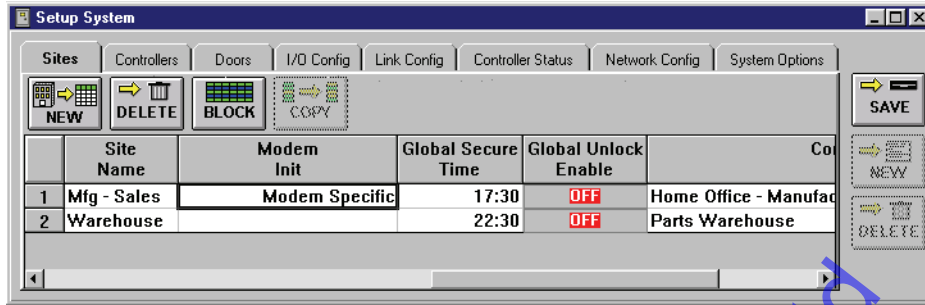

Figure 8-11: Block Selected Data Ready for Copying
- Click on the  button (see Figure 8-11).